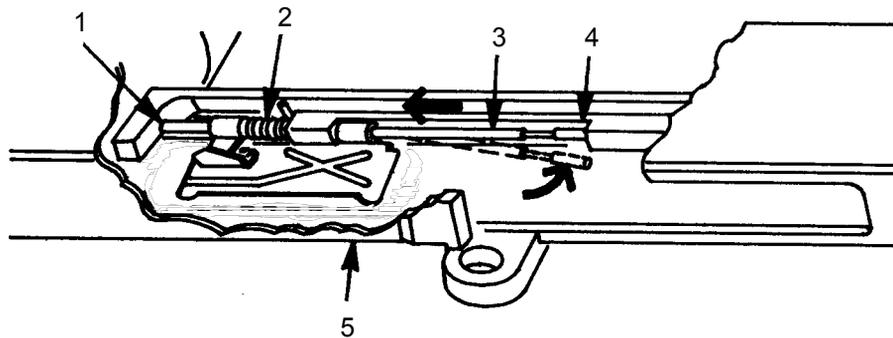

Figure 19. Assembly of Grooved Headless Pin and Torsion Spring into Receiver.
5. Push the grooved headless pin (Figure 19, Item 3) through the torsion spring (Figure 19, Item 2) and into the hole (Figure 19, Item 1) of the receiver assembly (Figure 19, Item 5), allowing the notched end to snap into slot (Figure 19, Item 4) of the receiver.